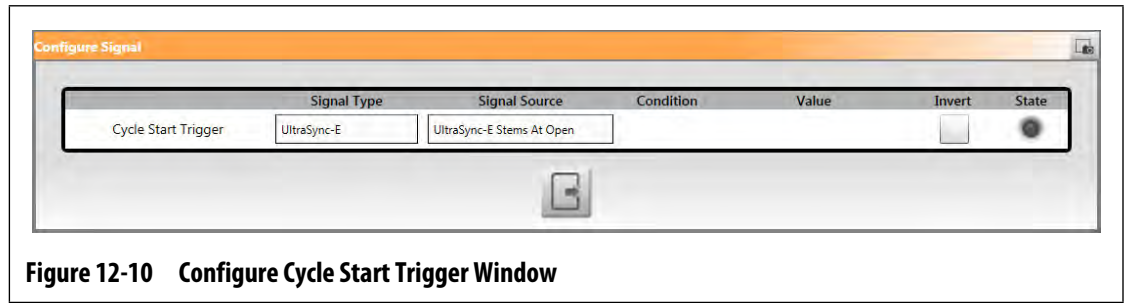

Figure 12-10 Configure Cycle Start Trigger Window
3. Touch the **Cycle Start Trigger** gear button. The Configure Signal dialog window shows (refer to Figure 12-10).